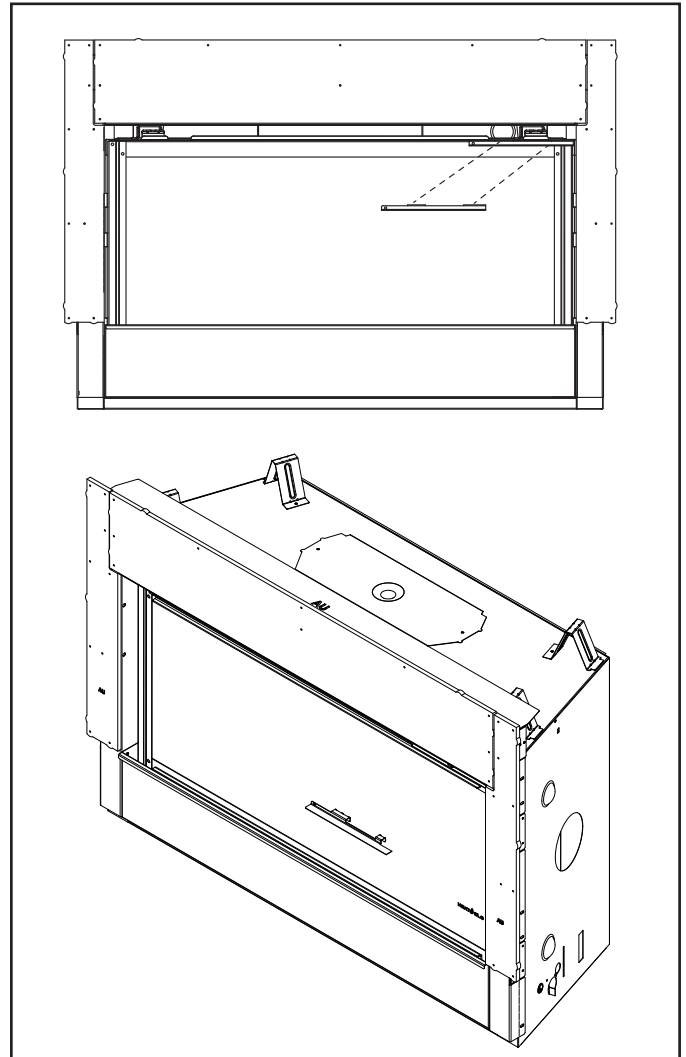

Figure 11.3 Separate Fan Bracket into Left and Right Brackets
2. Install the right bracket by installing it over the glass frame as shown in Figure 11.3.